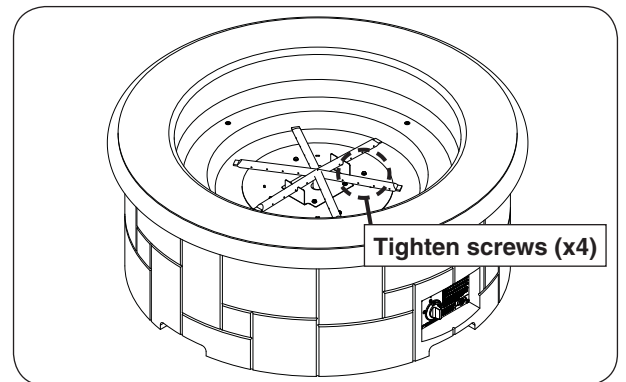

Fig. 25-3 Install burner
2. Use a $\frac{5}{16}$ " nut driver to fasten the burner to the base (see Fig. 25-3).